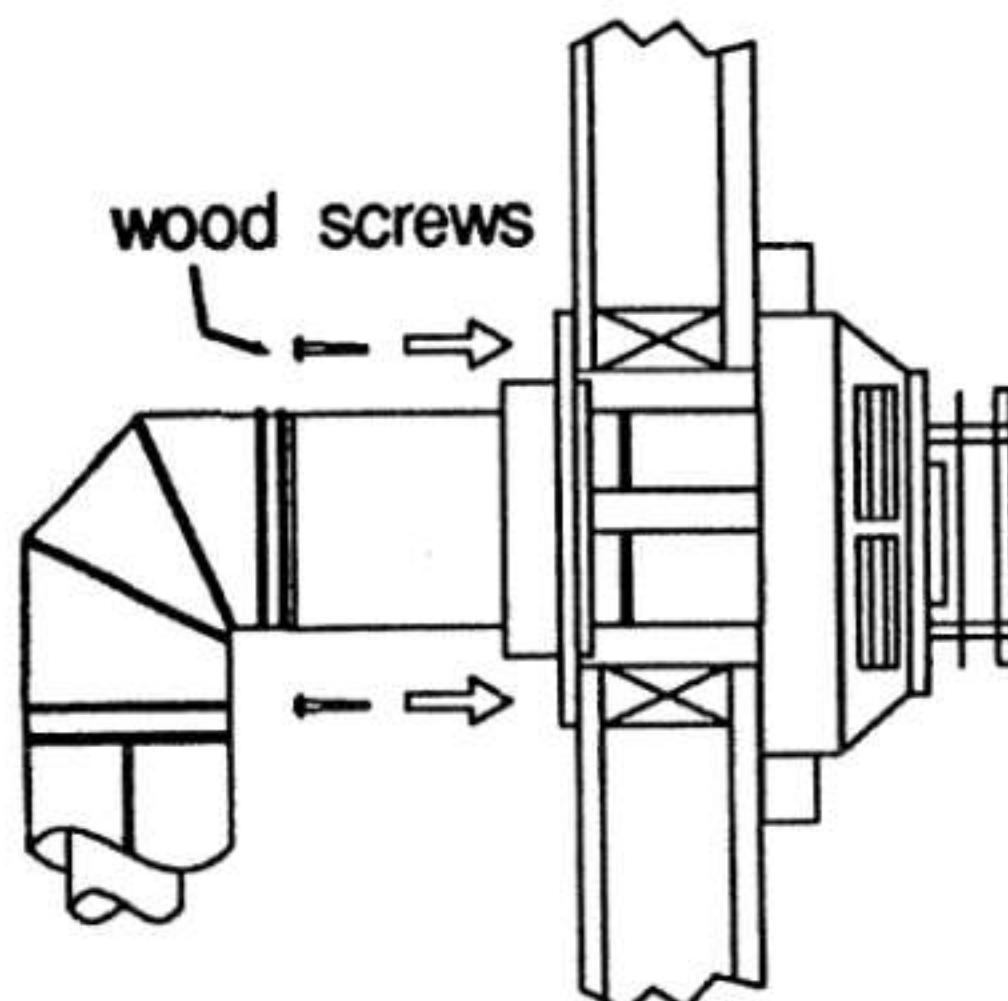

Fig. 5
8) Slide the decorative wall thimble up the wall surface and attach with screws provided. Apply decorative brass or chrome trim if desired. Fig. 5.